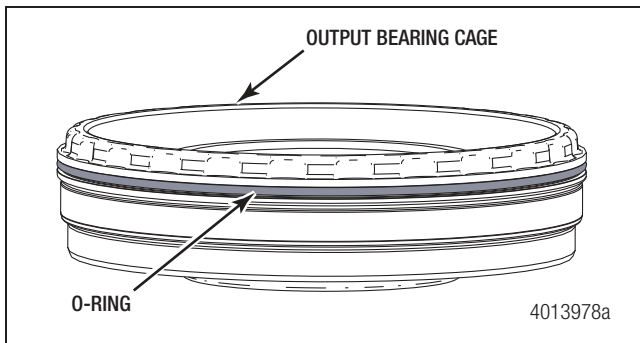

Figure 4.5
- Remove the o-ring from the adjusting ring bearing cage. Discard the o-ring. Figure 4.5.